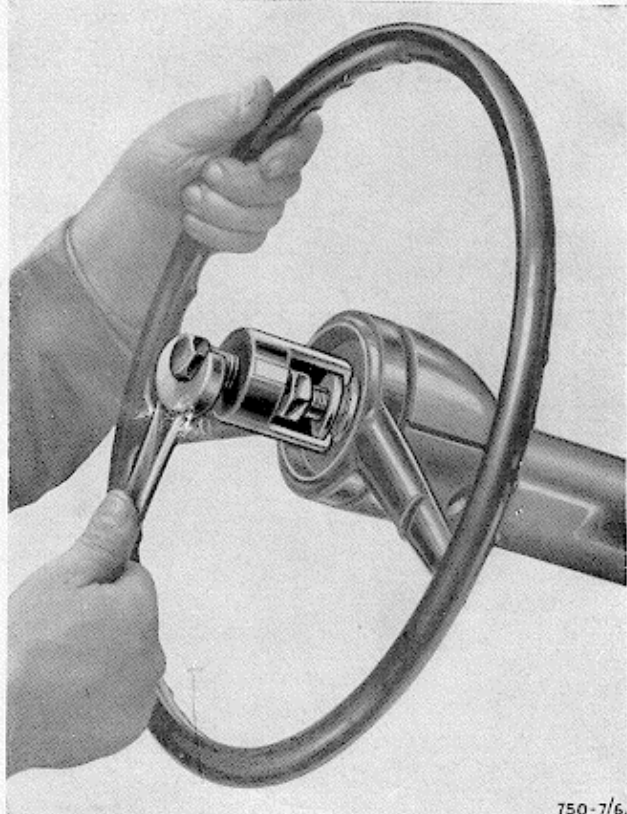

Fig. 6 - Removing the steering-wheel from the steering column, using tool No. 6121.12.090
- 7) Screw a thread-protection on to the steeringwheel shaft and draw off the steering-wheel, using tool No. 6121.12.090 (Fig. 6).